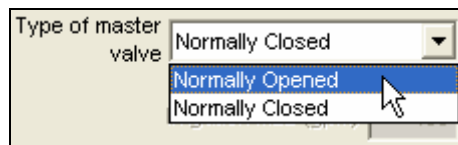

Figure 16.3.3C
2. Click on the **Type Of master valve** box and select from the drop down list the type of Master Valve that you have for this controller (Figure 16.3.3C).